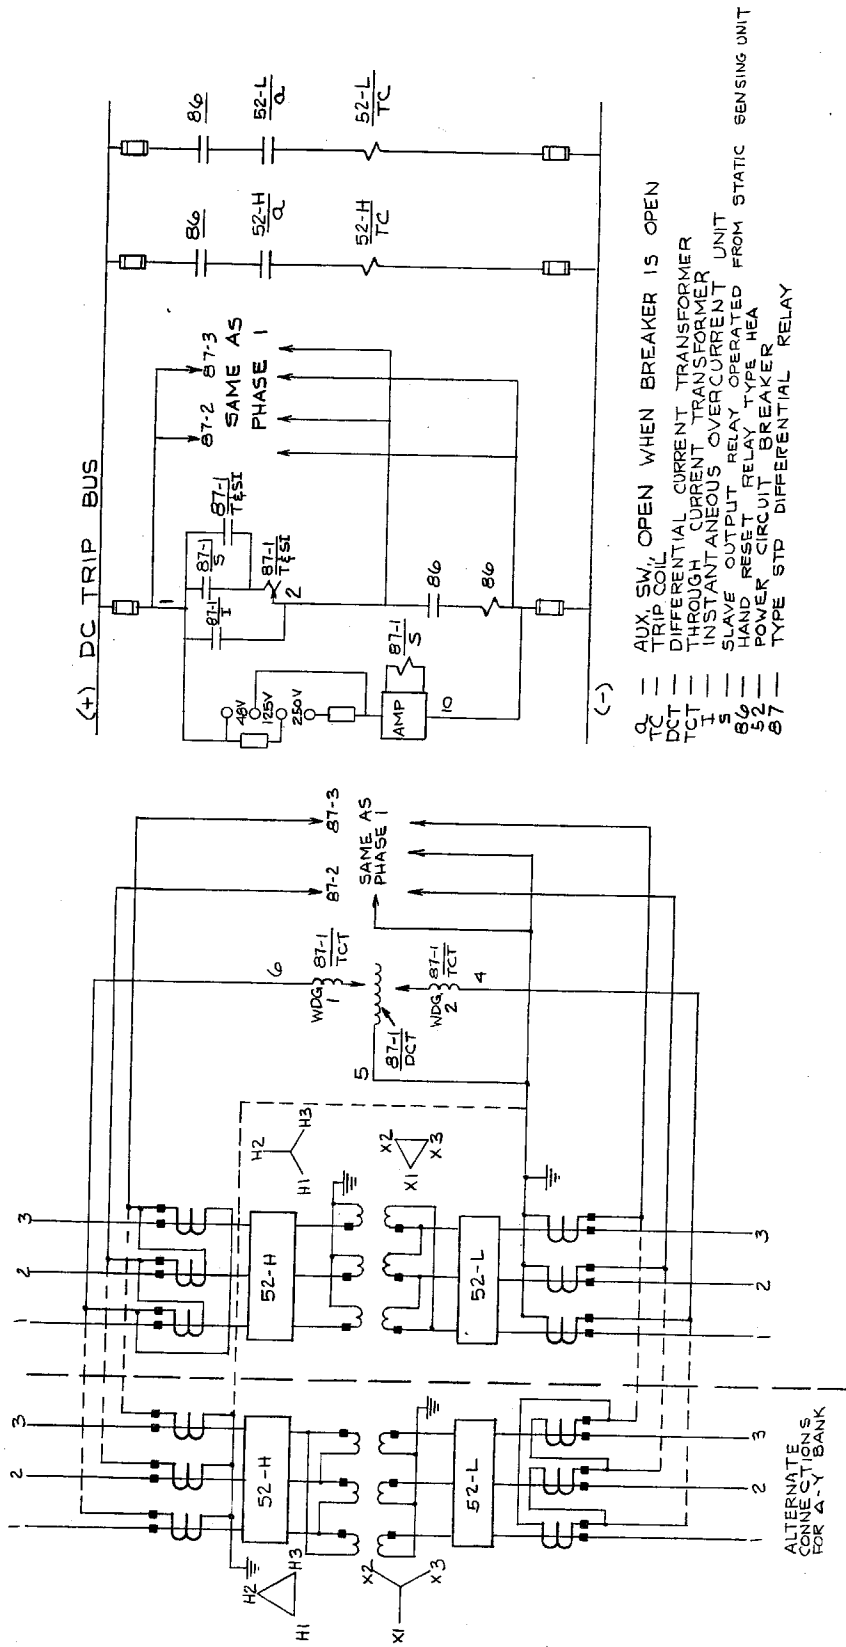

Figure 4 (0128B1981-1) External Wiring Diagram for the Type STD99AB Relay
- Figure 4 - shows the external wiring diagram for the STD99AB relay